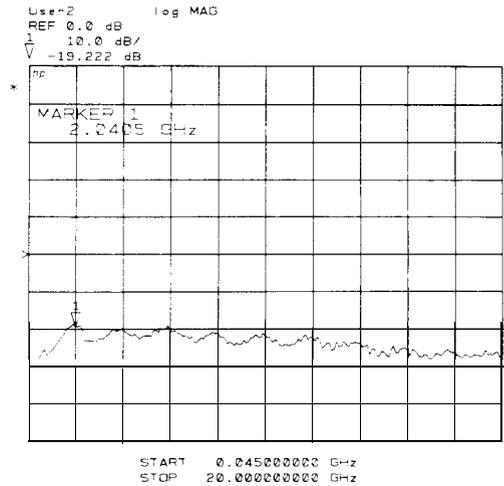
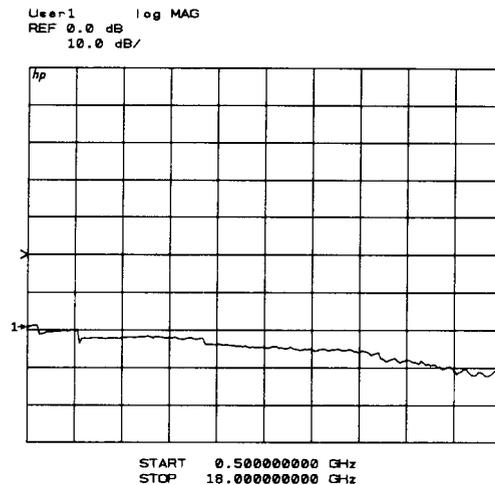

Figure 3-3. Typical Operator's Check CRT Power Level Trace
Figure 3-4. Typical Operator's Check CRT Power Level Trace
Plug in and turn on the test set (it should not be connected to any other instrument or device now). The line LED should light immediately and the active LED should light in about two seconds. Those indications mean that the instrument has passed its self-test. Turn off the test set and connect it to the HP8510 system as shown in Figure 3-3. Turn on all of the system instruments, network analyzer last. Let the instruments complete their self-tests.
- b. HP 8350B systems: press **[SWEEP TIME] [2] [0] [0] [k/m]** to set the sweep time to 200 ms. In narrow band systems, the level of the frequency band generated should match the levels shown in Figure 3-3 for a given frequency.
The b, and b₂ traces should resemble Figure 3-3. The a, and a₂ traces should resemble Figure 3-4.
5. Press PARAMETER [MENU] [USER 4 b1] [REDEFINE PARAMETER] [DRIVE] [PORT 2] [PHASELOCK] [a2] [REDEFINE DONE] to observe the b1 thru power level trace. The trace should resemble Figure 3-4.
6. Leave the thru connection of step 4 connected. Press PARAMETER [MENU] [USER 2 b₂] [REDEFINE PARAMETER] [DRIVE] [PORT 1] [PHASELOCK] [a1] [REDEFINE DONE] to observe the b2 power level trace. The trace should resemble Figure 3-4.
3. Press [USER 4 b1] to observe the b1 power level trace. The trace should resemble Figure 3-3.
5. Press PARAMETER [MENU] [USER 2 b2] [REDEFINE PARAMETER] [DRIVE] [PORT 1] [PHASELOCK] [a1] [REDEFINE DONE] to observe the b2 power level trace. The trace should resemble Figure 3-4.